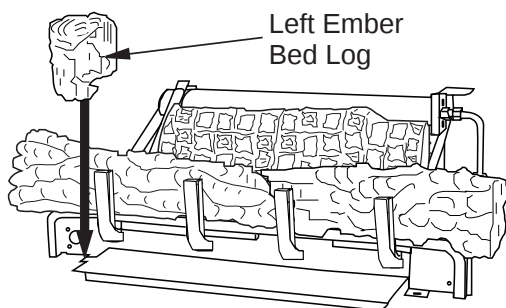

Figure 26 - Installing Left Ember Bed Log
- Place left ember bed log (18" D-073, 24" & 30" D-048) as shown in **Figure 26**. The log has groove on one side that sets on the ember bed pan. The back side of this log needs to rest against the front of the base assembly. Make sure the flame from the ember pan does not touch the ember bed log.